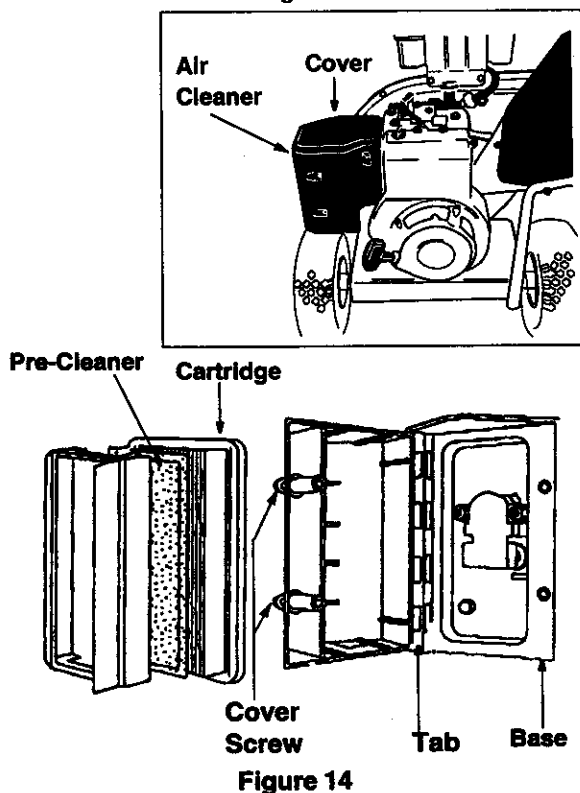

Figure 14
The air cleaner prevents damaging dirt, dust, etc., from entering the carburetor and being forced into the engine and is important to engine life and performance. For location of air cleaner, see Figure 14 inset.
- Remove two hex screws and cover holding the air cleaner cartridge in place. Remove air cleaner assembly from inside the cover and disassemble. See Figure 14.